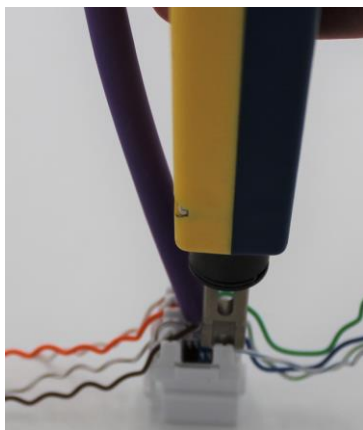

Fig. 15
4.5 Terminate the wires, maintaining 6mm max. pair untwist to the base of the IDC towers. Trim excess wire. Fig. 15 & 16